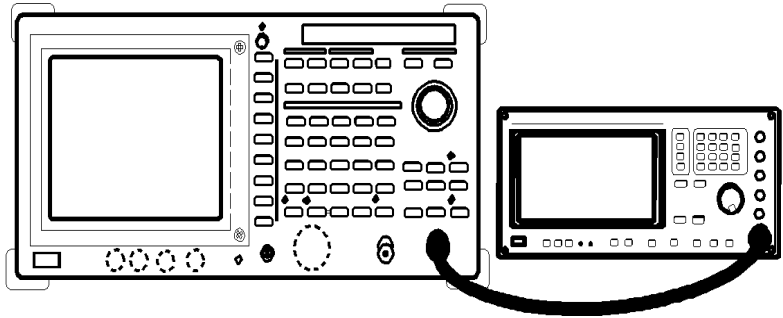

Figure 1-6 Setup for Measuring an Input Attenuator Accuracy
1. Connect the signal generator as shown in Figure 1-6.